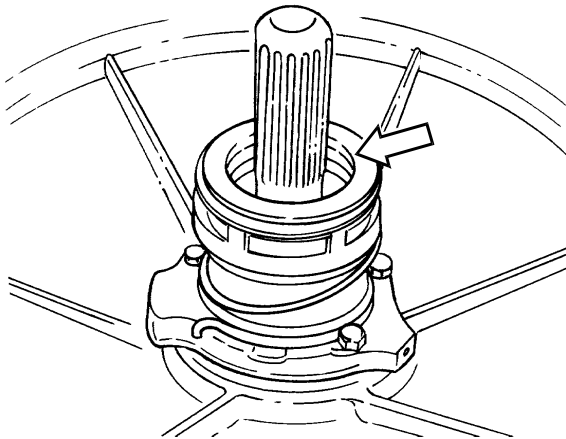

Figure 121 - Clutch Throw-Out Bearing
f. Inspect the clutch throw-out bearing (Fig 121); replace if required, refer to para 65.